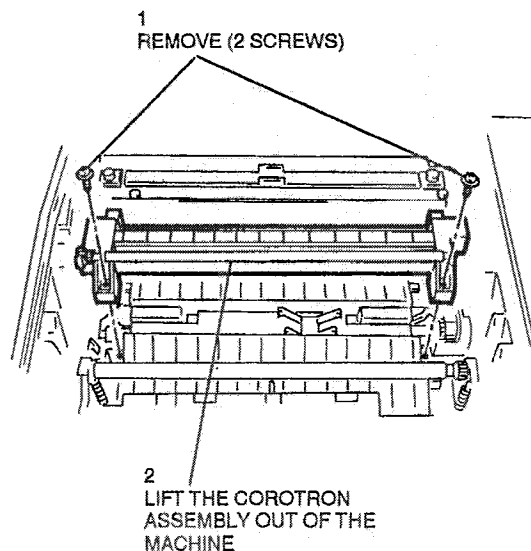

Figure 1. Corotron assembly removal
3. (Figure 1) Remove the corotron assembly.